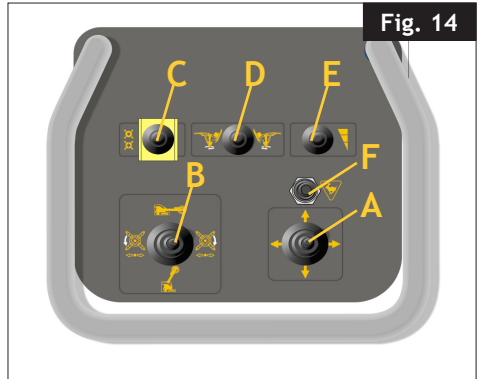

Fig. 14
- Two-position lever (D, Fig. 14) that uses a horizontal movement to rotate the tool unit (only for the automatic version).
- Three-position lever (E, Fig. 14) that controls the rotational speed of the turntable.
- Button (F, Fig. 14) that, when activated together with the trolley translation control, increases the speed.